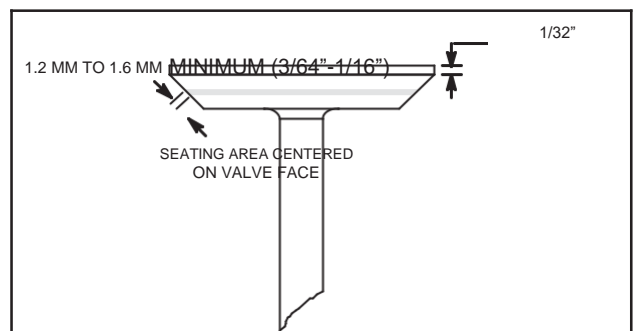

Fig. 15 – Valve Dimensions
4. Valve faces may be resurfaced to 45°. See Fig. 15 for dimensions for valves. Lap valves and seats with valve lapping tool, #19258 and valve lapping compound, tool #94150.